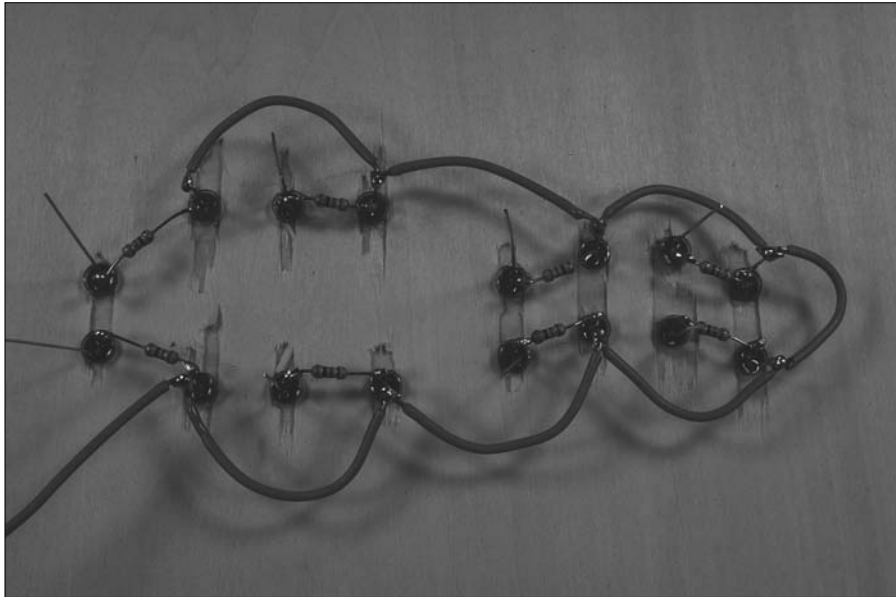

Figure 5-18:
9. **Connect and solder short lengths of 20 gauge red wire between the remaining long LED leads. Then attach a 12" 20 gauge red wire to the remaining long lead of the first LED pair, as shown in Figure 5-18.**